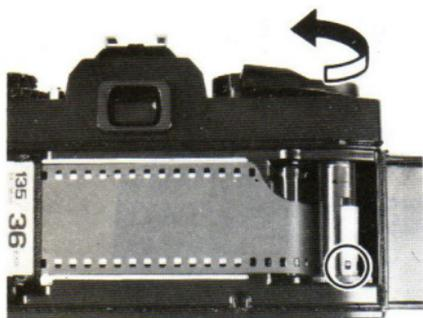

Fig. 7
6. Rotate Film Take-up Spool (32) by advancing Film Advance Lever (11) to take up any slack in the film and check to see that the film tip is firmly hooked onto Film Take-up Spool (32) (Fig. 7) and that sprocket holes on the film are fully engaged on Sprocket Teeth (22) (Fig. 8).
7. Close and press Back Cover (33) firmly until it snaps shut.